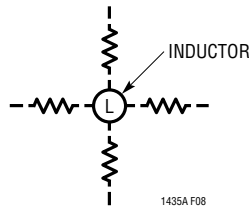

Figure 13. Allowable Inductor/ $R_{SENSE}$  Layout Orientations
9. If operating close to the minimum on-time limit, is the sense resistor oriented on the radial axis of the inductor? See Figure 13.